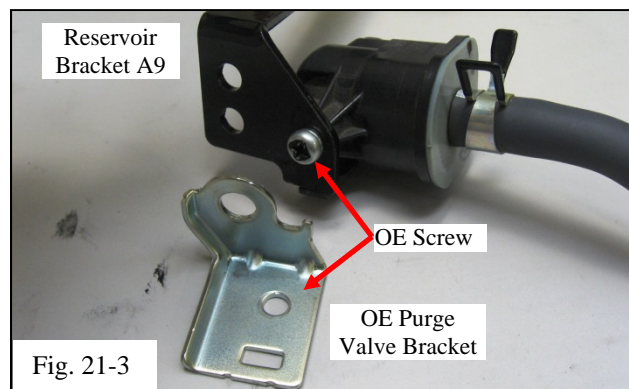

Fig. 21-3
- (c) Remove the purge valve (VSV) from the OE bracket and mount it onto the reservoir bracket (Item A9) using the OE screw (Fig. 21-3).